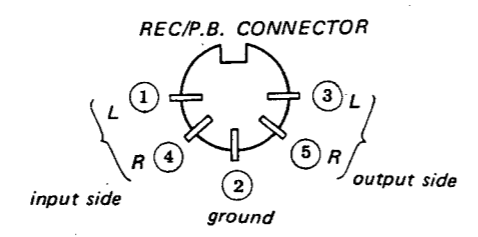

Fig. 9-26 REC/P.B. connector (back view)
- (1) Deliver a 1 kHz signal of -33 dB (17.5 mV) to terminal No. ① (L-CH) or ④ (R-CH) of the rec./p.b. connector shown in Fig. 9-26.
- (2) Place the machine in record mode and be sure that the pointer of the level meter indicates the boundary between the red portion and the black portion.
- (3) Record the signal on the blank tape.
- (4) Playback the tape.
- (5) Be sure that the reading on the VTVM connected to the terminal No. ③ (L-CH) or ⑤ (R-CH) of the rec./p.b. connector is -1 ~ +1 dB (0.69 ~ 0.87 V).